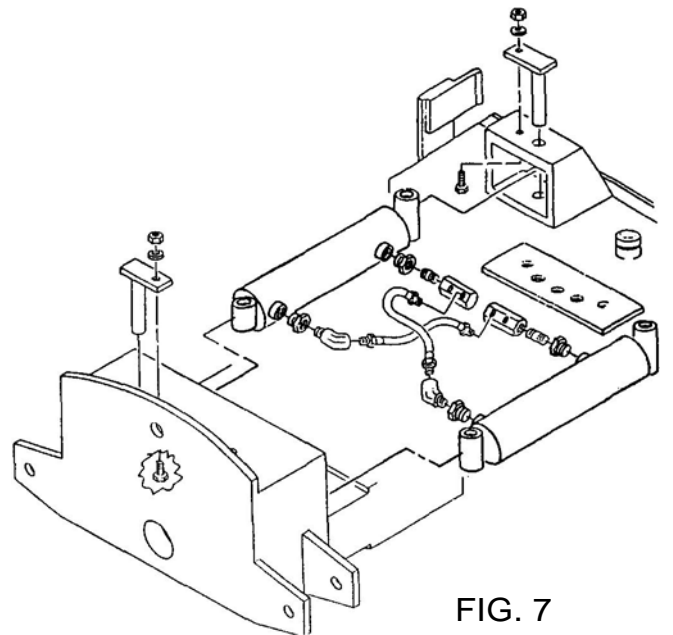

FIG. 7
- (1) Insert a 1/4-3/8 hex red. bushing into the front and rear ports of both cylinders. Use pipe compound on threads.
- (2) Insert a 1/4 x 45° steel st. elbow into the rear ports on both cylinders. Use pipe compound on the threads. See FIG. 7.
- (3) Insert a 1/4" close nipple and hex fitting into the front ports on both cylinders. Use pipe compound on the threads. See FIG. 7.
- (4) Attach the rear of the angle cylinders to the sub-frame and the rod end of the angle cylinders to the pivot assembly. Use a pin weldment and secure with a 3/8-16 x 1 1/4 hex hd. capscrew, lockwasher, and nut. Both cylinders and both ends. See FIG. 7.
- (5) Connect the (2) 1/4 x 10" hydraulic hoses to the angle cylinders as shown in FIG. 7. Use pipe compound on the threads.